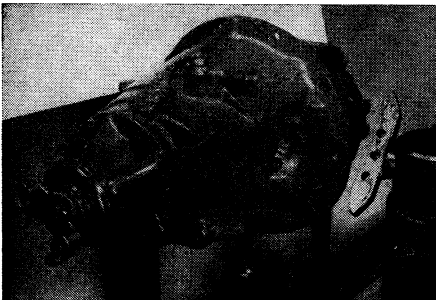

Fig. 16 Manually operated shift
19. To remove the manually operated shift, Fig. 16, remove shift lever retaining nut and shake proof washer. Remove lever, poppet, spring and Woodruff key from shift fork shaft.